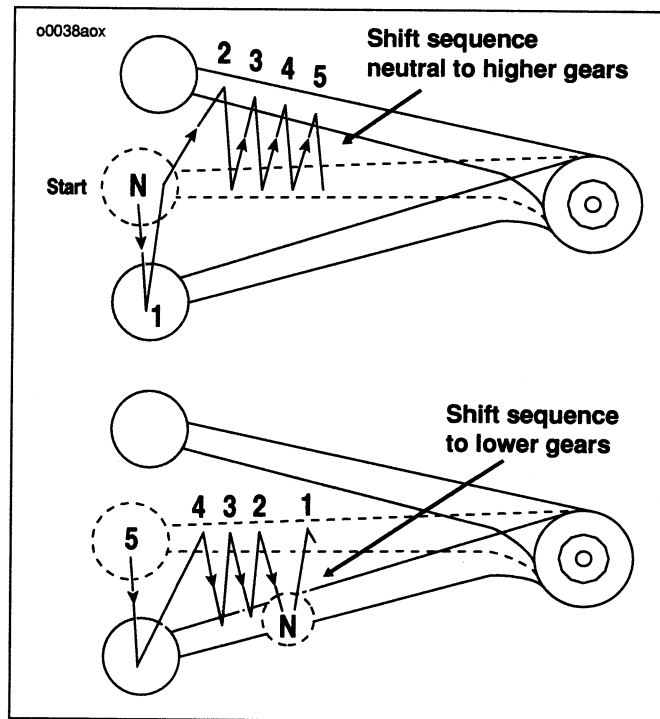

Figure 11. Foot Shifter Lever
- See Figure 11. Pushing foot shift lever all the way down (full stroke) shifts the transmission to the next lower gear.